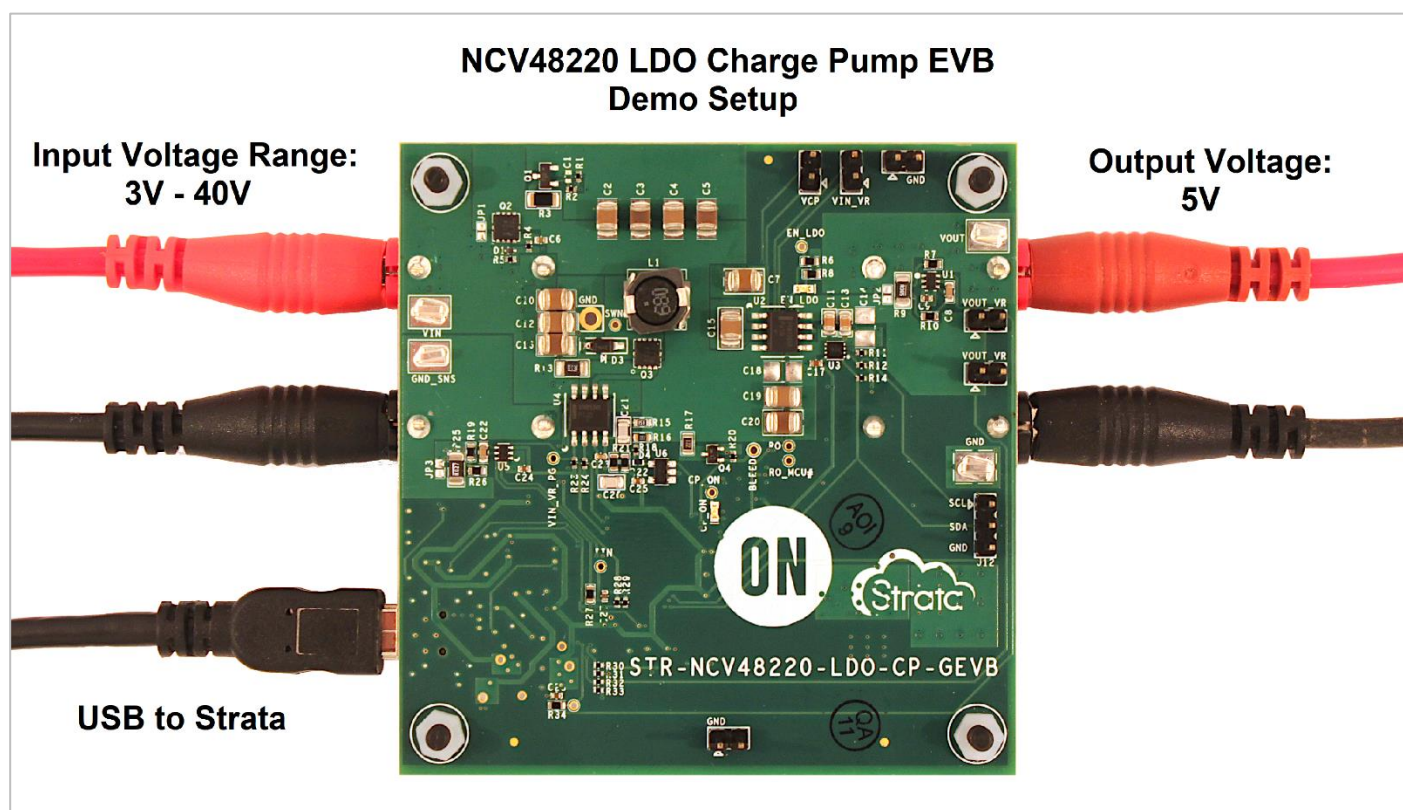

Figure 1: Demo setup
3. A picture of the setup can be found in Figure 1. The red power cables denote positive polarity with respect to the black power cables.